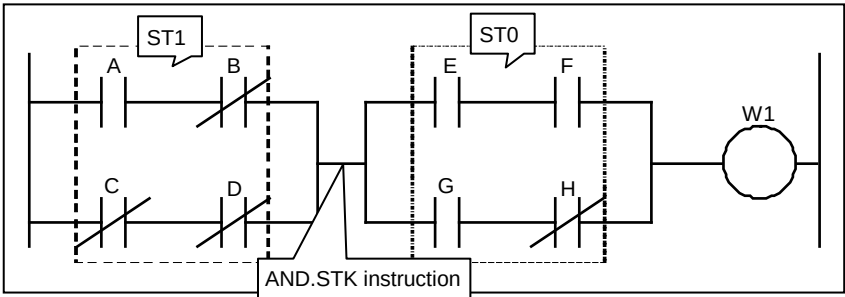

Fig. 4.1.12 (b)
- (1) The AND.STK instruction finds the logical product of the operation result stored in the ST0 bit and that stored in the ST1 bit and sets it in the ST1 bit. The instruction then shifts the register content one bit to the right and puts the resulting logical product into the ST0 bit. Fig. 4.1.12 (b) shows a detailed image of what is shown in Fig. 4.1.12 (a).